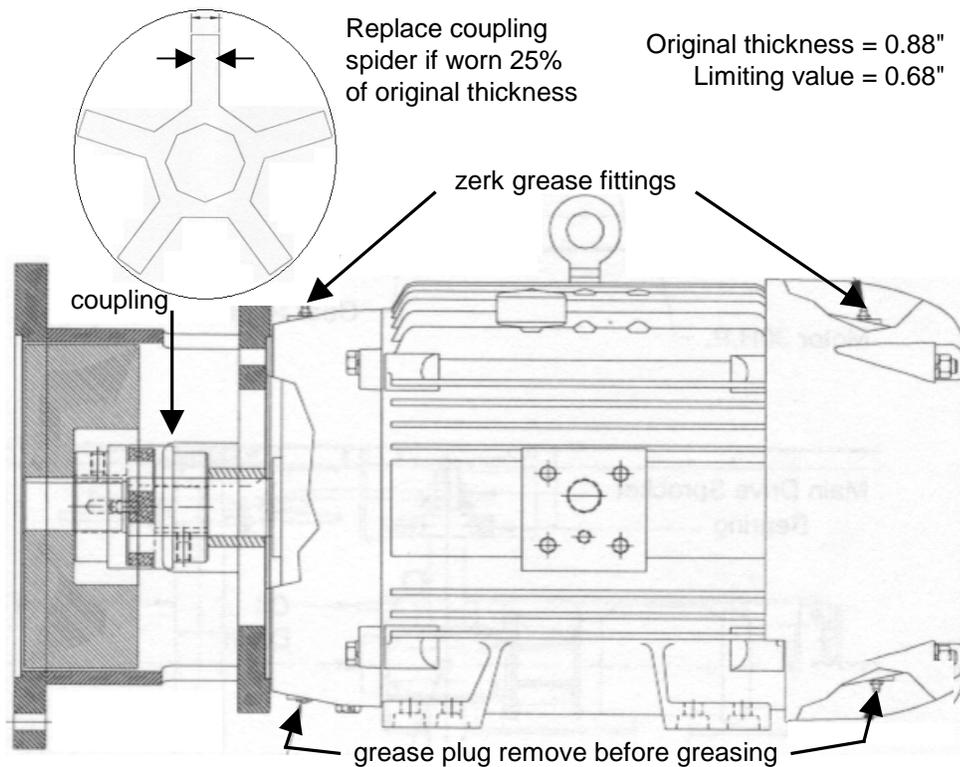

Figure 8-18a Fujitec PS-S 1200 Motor Grease Fittings & Coupling
- Check for excessive play and minimum thickness of the cushion rubber. Never operate the escalator if the wear is **beyond 25% of original thickness** (figure 8-18a p8). Replace the spider if cracked or hard to touch, or realign the coupling, motor and gear reducer.